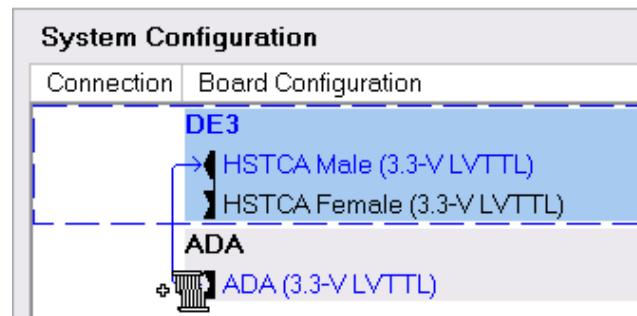

Figure 4.5. Step 2 of establishing a connection
- ii. Hold the left button of the mouse and Drag the mouse cursor to the lower connector as shown in Figure 4.5.